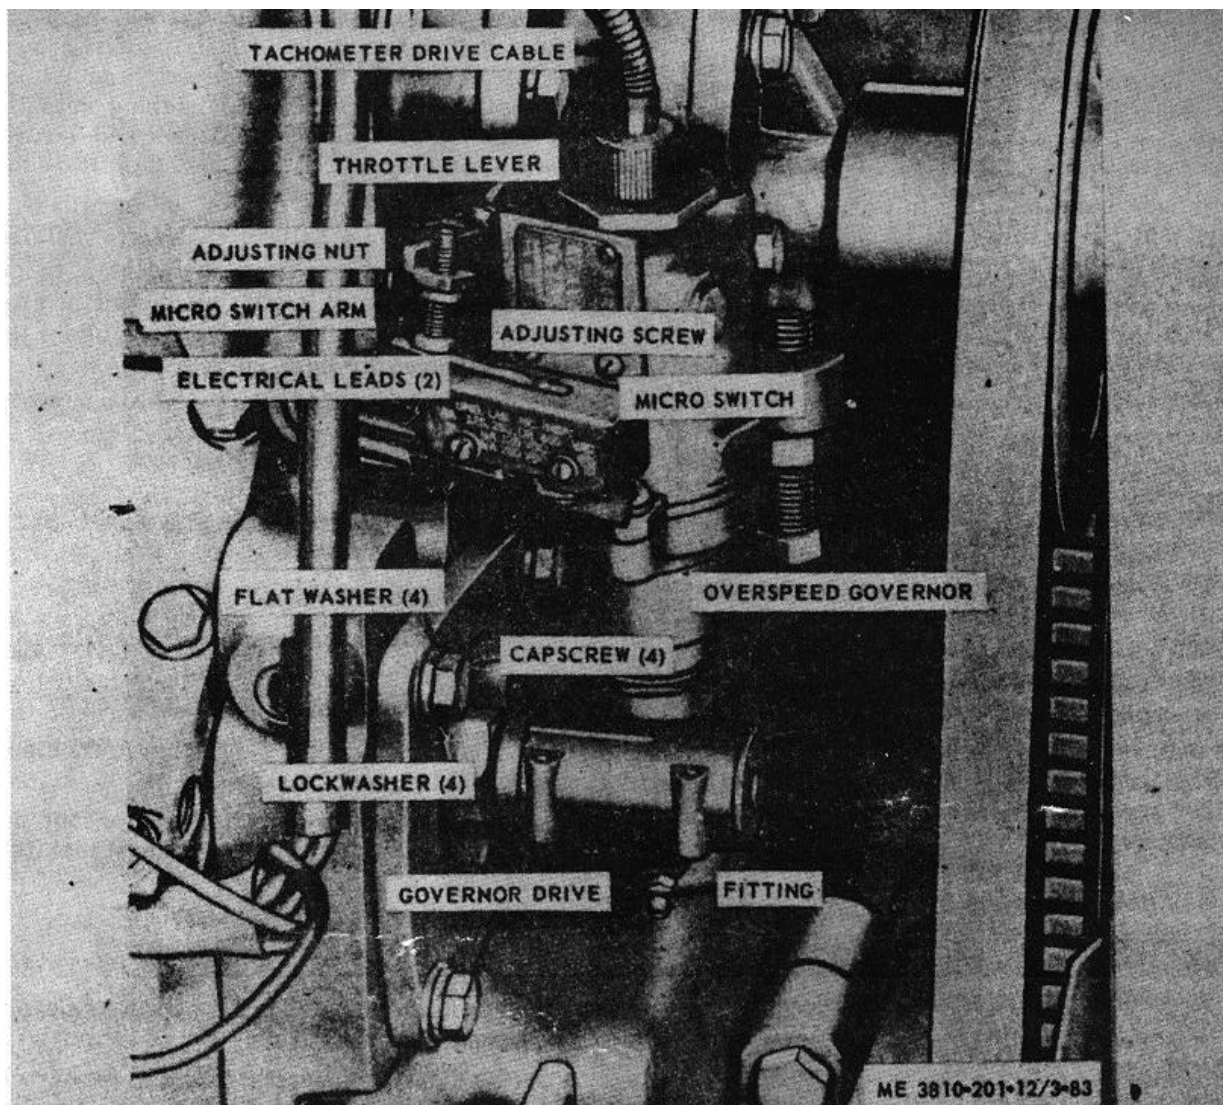

Figure 3-70. Overspeed governor, removal, installation, and speed adjustment (engine model 687C-18-ES).
(1) Disconnect and remove tachometer drive cable (fig. 3-70), then tag and disconnect two electrical leads,
(2) Remove four capescrew, lockwasher, and flatwashers securing overspeed governor to engine front cover, then remove governor.
(3) Install in reverie order.
(1) If engine shuts down before tachometer indicates 1,920 RPM, increase between head of the adjustment screw (fig. 3-70) and microswitch arm by turning adjusting screw counterclockwise then moving adjusting nut toward throttle lever. Repeat adjustment, by trial and error, until engine shuts down at $1,985 \pm 15$ RPM.
(2) If adjustment does not shutdown when tachometer indicates more than 1,950 RPM, decrease distance between head of dusting screw and microswitch arm by backing off adjusting nut, turn adjusting screw clockwise, then move adjusting nut toward throttle lever. Repeat adjustment by trial and error until engine shuts down at $1,985 \pm 15$ RPKL
(3) Throttle spring tendon is adjusted in a similar manner by adjustment screw on back side of overspeed governor. Tighten adjusting screw against bracket to increase tension screw from bracket to decree tension.